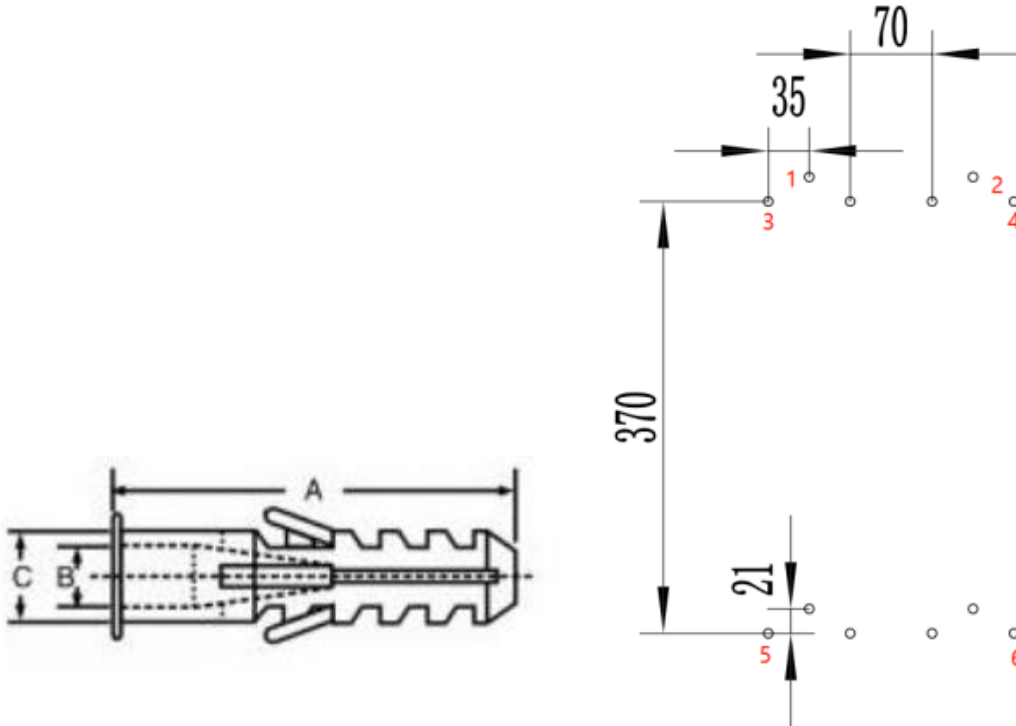

Figure 3-2
1) Plan the layout in advance and insert the expansion screw into the wall at the chosen location, as shown in Figure 3-2.